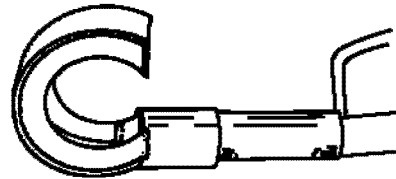

Figure 11. TG-24 Reflector
e. TG-24. Used for heating solder termination sleeves and shrinking large-diameter tubing and boots. Used for boots up to 3 inches in diameter and has to be ordered separately (Figure 11).